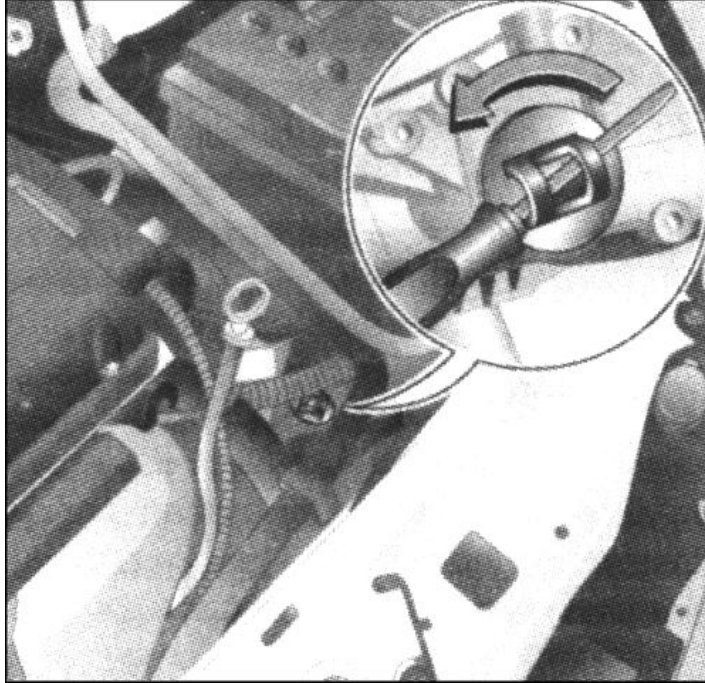

Fig. 1.41. Withdrawal cover automatic transmission Transmission Easytronic
3. Clear Easytronic transmission in the cover (see Figure 1.41) that after removing the cover in the hole did not hit the dirt.
4. To release the lid, turning it, and pull up (Figure 1.41).